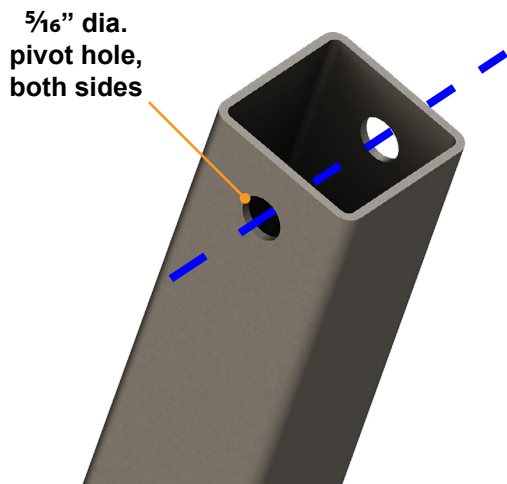

Fig.5
5. Use a $\frac{5}{16}$ " drill bit to drill a new pivot hole through both sides of the sport arm (Fig.5).